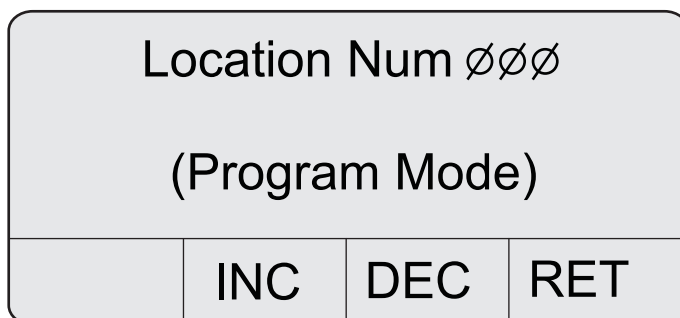

Figure 9 Location number screen
1. Press **2 (DSP)** on the main screen. The Location Number screen is displayed (refer to Figure 9).